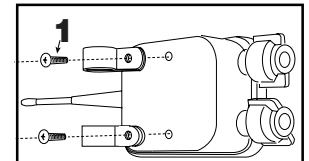

Fig. 8
4. Attach 2 small clamps to back of transmitter as shown using #10 x 0.5 inch (M5x0.8 x 12.7) taptite screw (Item 1 Fig. 8) - 2 places. (Go to iii).